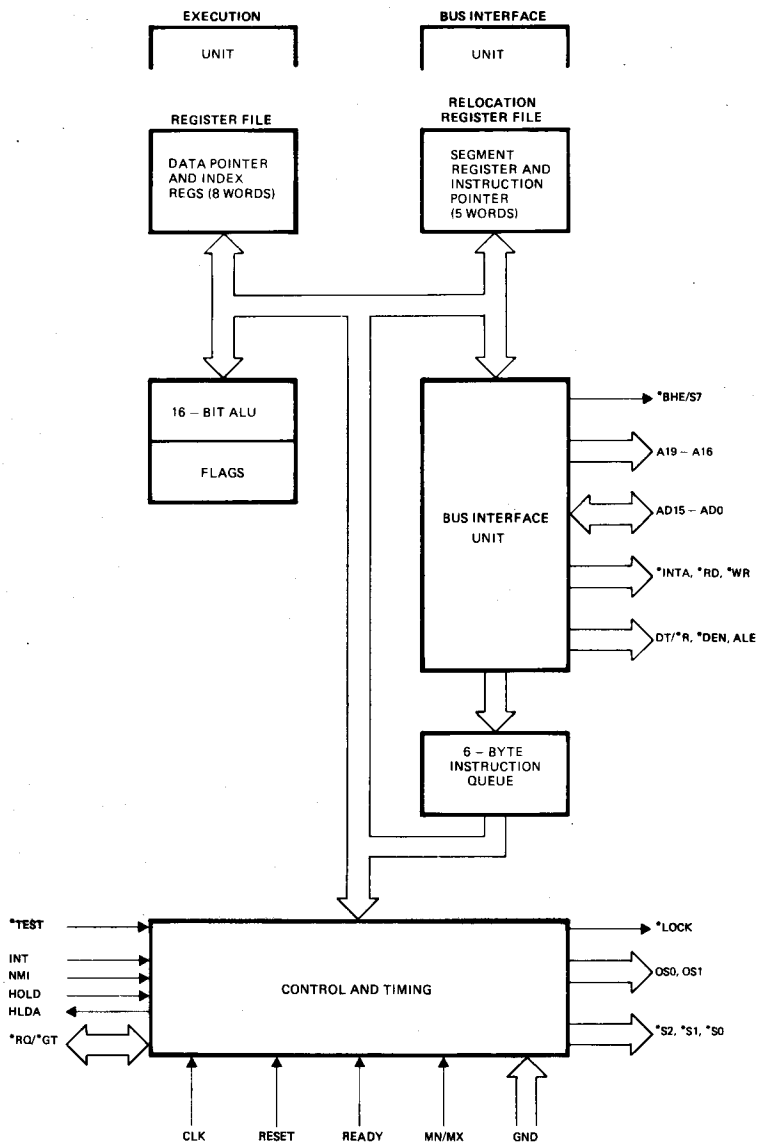

Fig. 2-56 8086 Block Diagram
The 8086 is the primary element of the APB 1086. This processor has attributes of both 8 and 16 bit microprocessors. The internal functions of the 8086 processor are partitioned logically into two processing units. The first is the Bus Interface Unit (BIU) and the second is the Execution Unit (EU). Figure 2-56 shows a block diagram of the 8086 CPU.